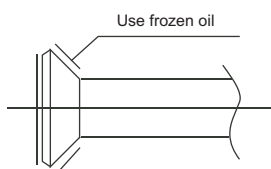

Fig.11-1
- ① Bend the tubing in proper way. Don't harm them.
- ② Daub the surfaces of the flare pipe and the joint nuts with frozen oil, and wrench it for 3~4 rounds with hands before fasten the flare nuts. (Refer to Fig.11-1)
- ③ Be sure to use two wrenches simultaneously when you connect or disconnect the pipes.